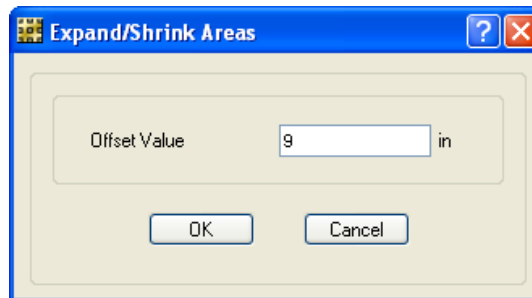

Figure 22 Expand/Shrink Areas form
- L. Click the **Edit menu > Edit Areas > Expand/Shrink Areas** command to display the Expand/Shrink Areas form shown in Figure 22.